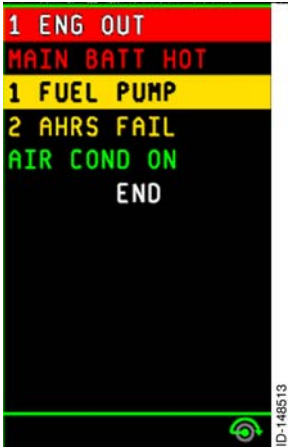

Figure 6-9
- CAS Message Window - The CAS message window, as shown in Figure 6-9, operates as described previously in this section.